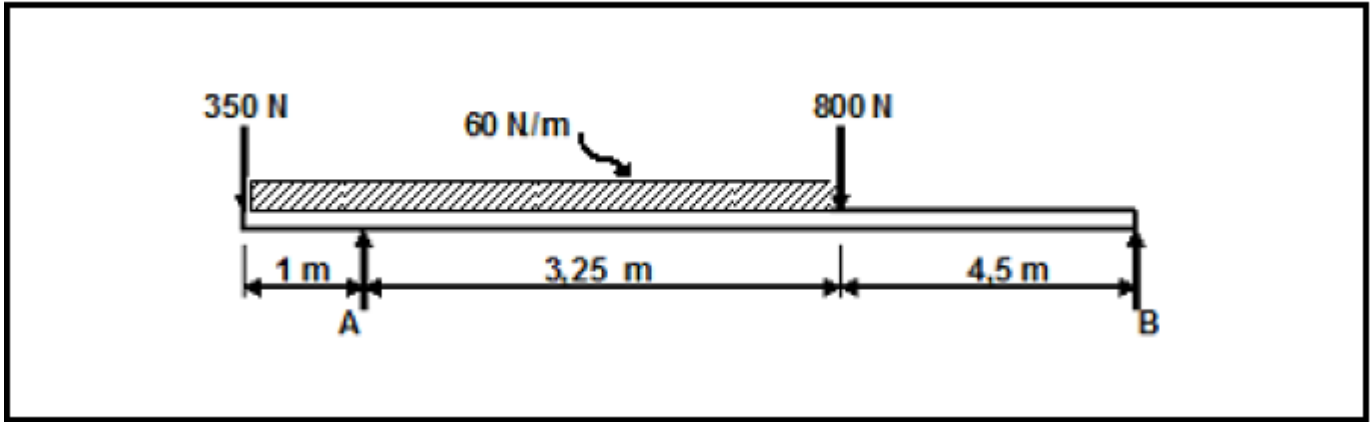

FIGURE 3.4
3.4 FIGURE 3.4 shows a uniform beam that is supported by two vertical supports, A and B. Two vertical point loads are exerted onto the beam, as well as a uniformly distributed force of 60 N/m , over the distance between the two vertical point loads.